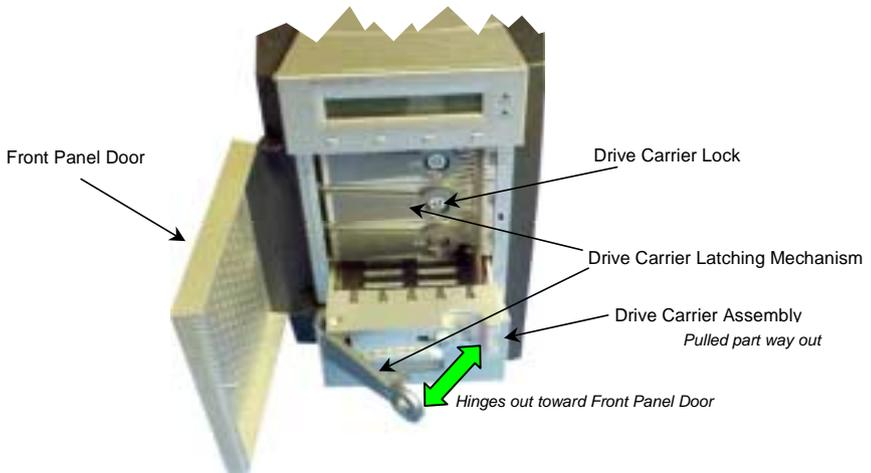

Figure 1. UltraTrak100 Disk Drive Access (TX4 Shown)
2. Unlock the Drive Carrier Latching Mechanism and remove an unused Drive Carrier (see Figure 1 on page 4) from the UltraTrak100. (Begin at the top and work down.)